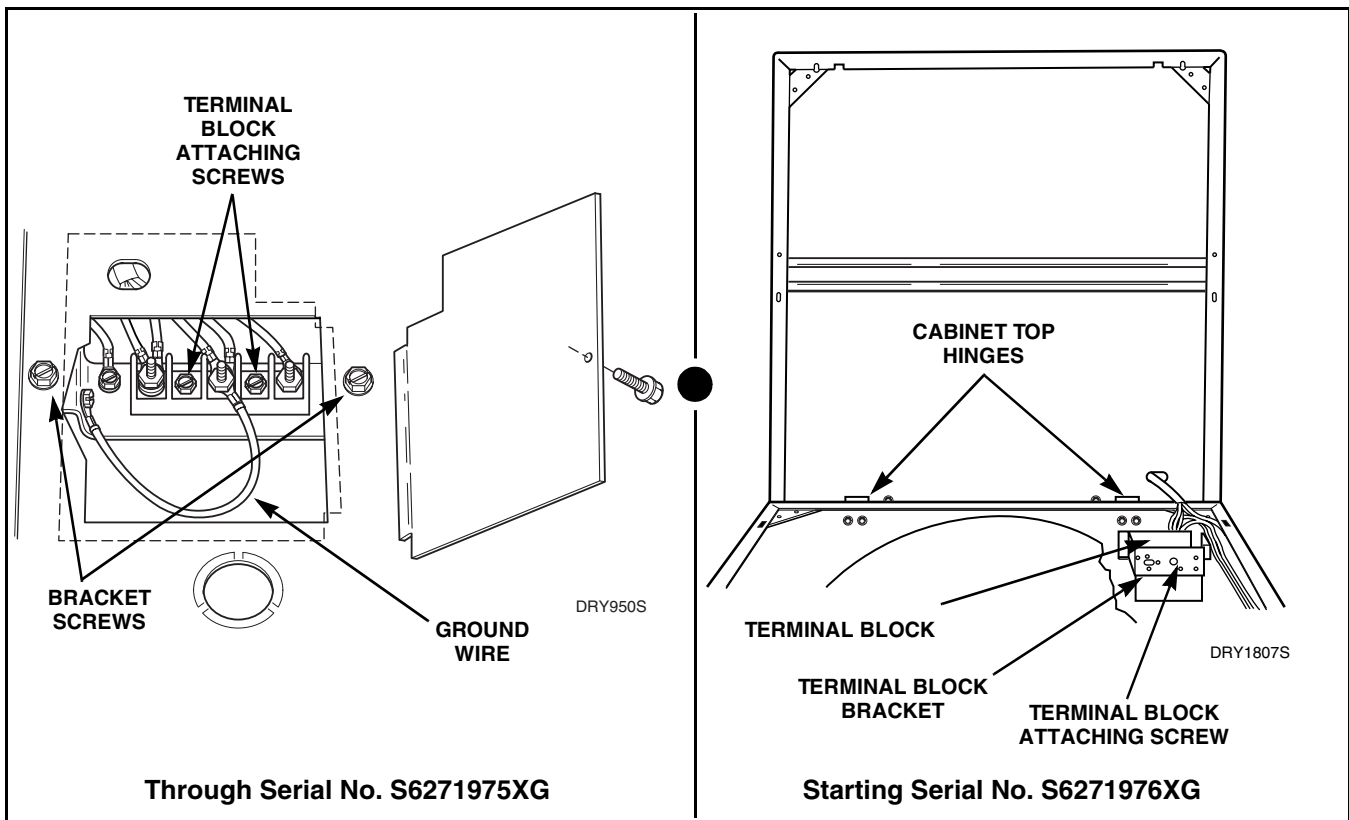

Figure 38
#### a. Terminal Block – Electric Models (Refer to Figure 38)
- u. Remove screw holding access plate and remove plate. Refer to *Figure 38*.
- v. Remove two screws holding terminal block bracket to cabinet. Refer to *Figure 38*.